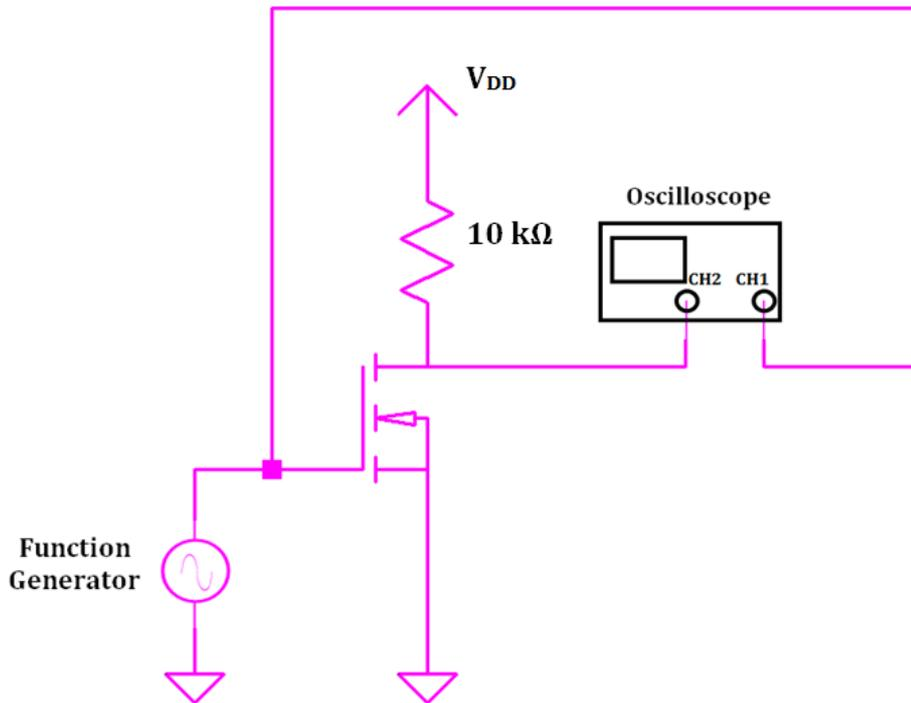

Fig. 24: Circuit schematic for the dynamic response
1) Construct the circuit shown in Fig. 24.